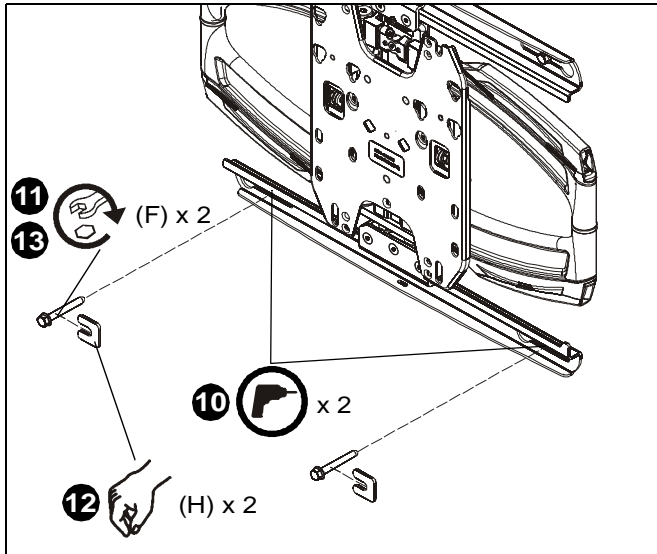

Figure 4
9. Drill two 13/64" holes in center of wood studs at lower mounting holes. Holes should be 2" in depth. (See Figure 4)
10. Loosely install two 5/16 x 2 1/2" flange head lag screws (F). (See Figure 4)
11. Place two installation spacers over two flange head lag screws. (See Figure 4)
12. Tighten two screws to secure main assembly (M) to wall. (See Figure 4)